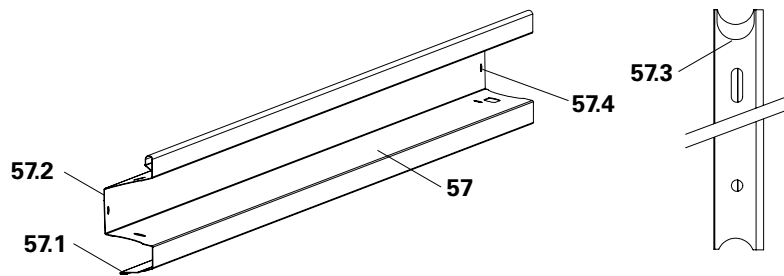

Fig. A3.07
2. Turn the trapezoid box (**57.2**) **outwards**. (Fig. A3.07)